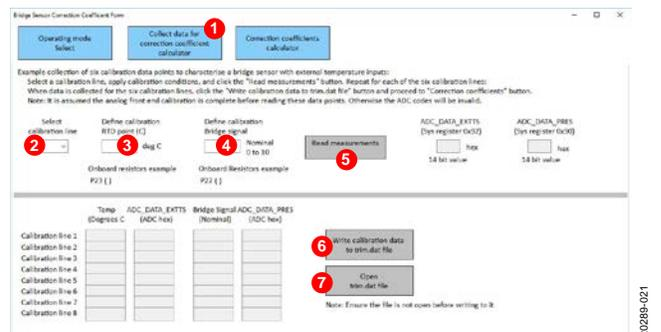

Figure 21. Generate the trim.dat file for the Bridge Sensor Calibration
1. Click **Collect data for correction coefficient calculator** (Label 1 in Figure 21).
2. Click **Select calibration line** (Label 2 in Figure 21) and select a line to log the measurements.
3. Enter the temperature to measure in degrees Celsius (°C) in the **Define calibration RTD point (C)** box (Label 3 in Figure 21).
4. Enter the bridge sensor signal level as a nominal scale from 0 to 10 in the **Define calibration Bridge signal, Nominal 0 to 10** box (Label 4 in Figure 21).
5. Apply the defined temperature and signal levels to the sensors and click **Read measurements** (Label 5 in Figure 21).
7. Click **Write calibration data to trim.dat file** (Label 6 in Figure 21) to create the **trim.dat** file and overwrite any existing **trim.dat** files in the \BridgeCalibration subfolder.
Note that users can optionally click **Open trim.dat file** (Label 7 in Figure 21) to view the calibration file.